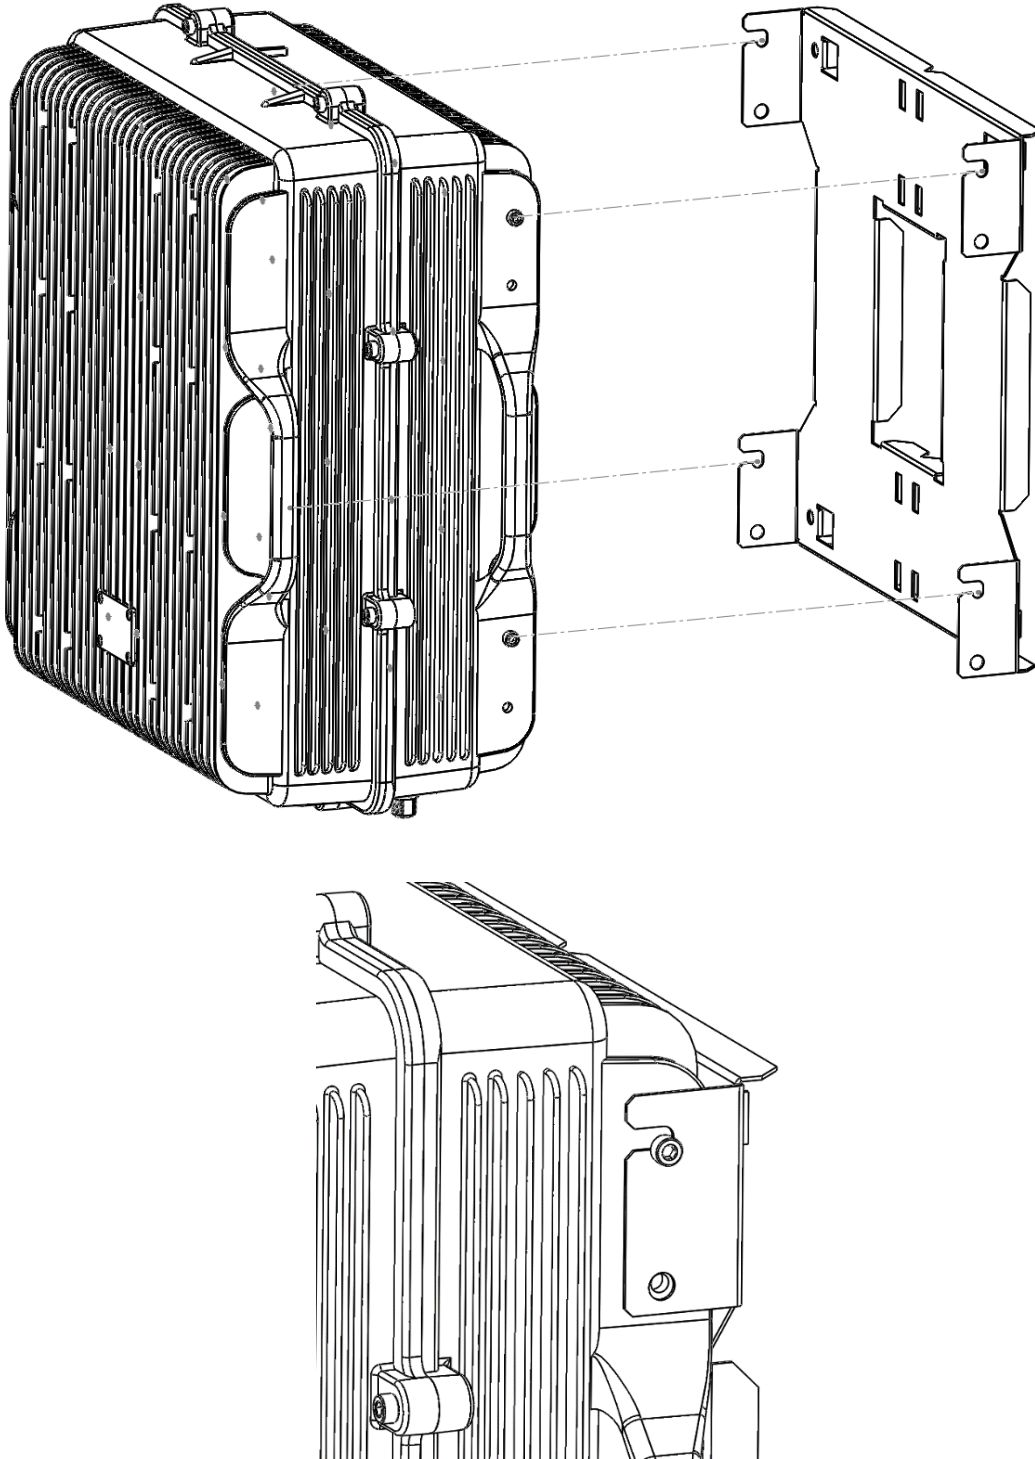

Figure 3
2. After attaching the bracket hang the cabinet as shown in Figure 3.